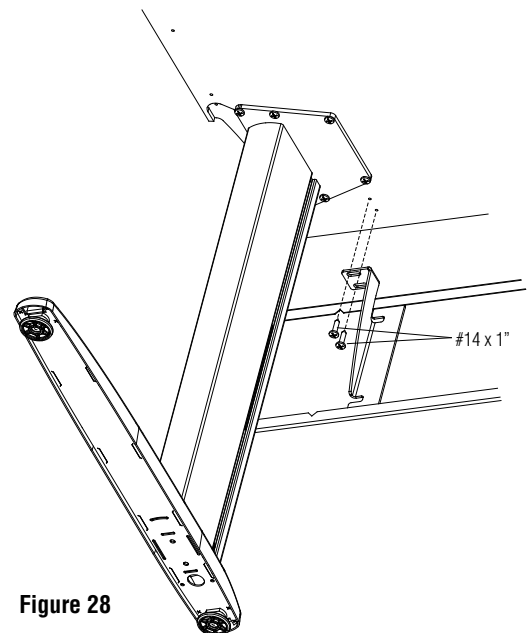

Figure 28
3. Attach assembled modesty panel to holes on underside of worksurface. Use two #14 x 1" Phillips screws for mounting each bracket (Figure 28).